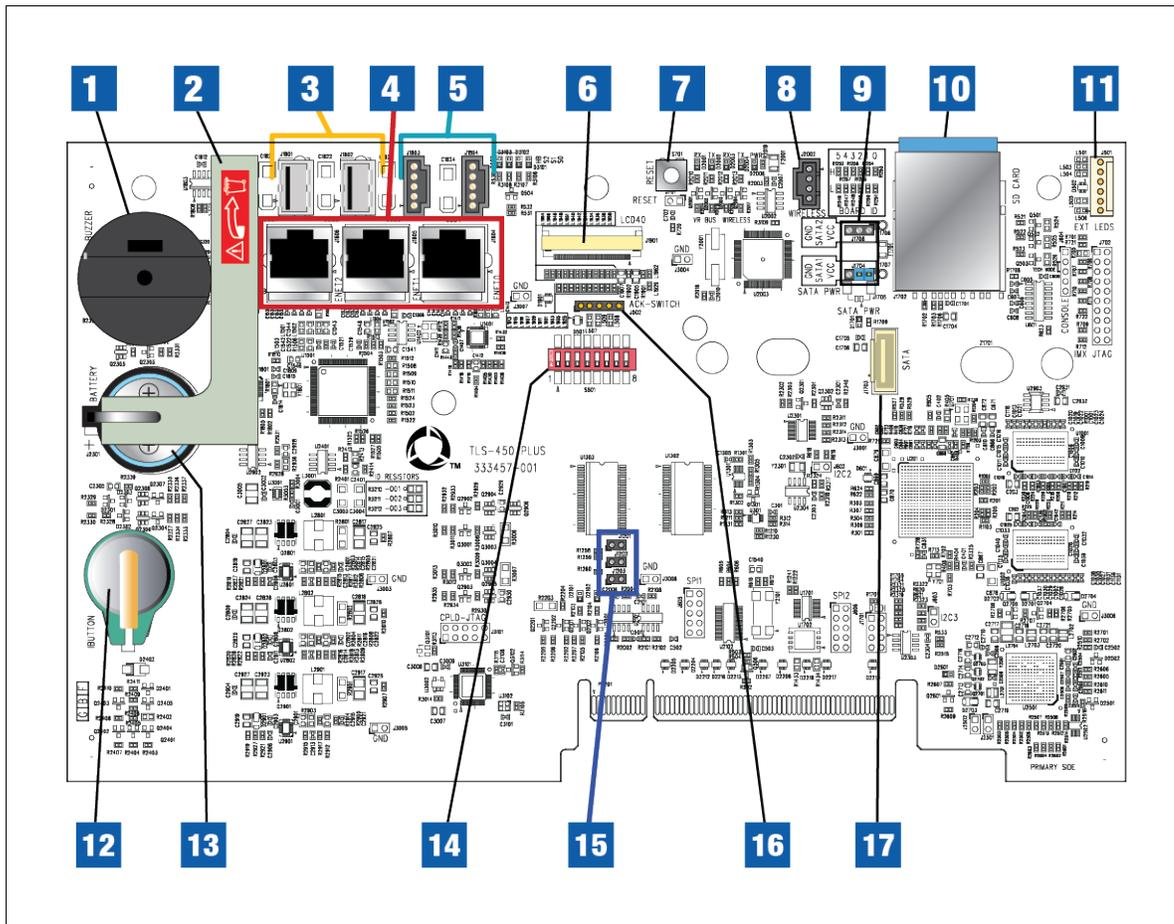
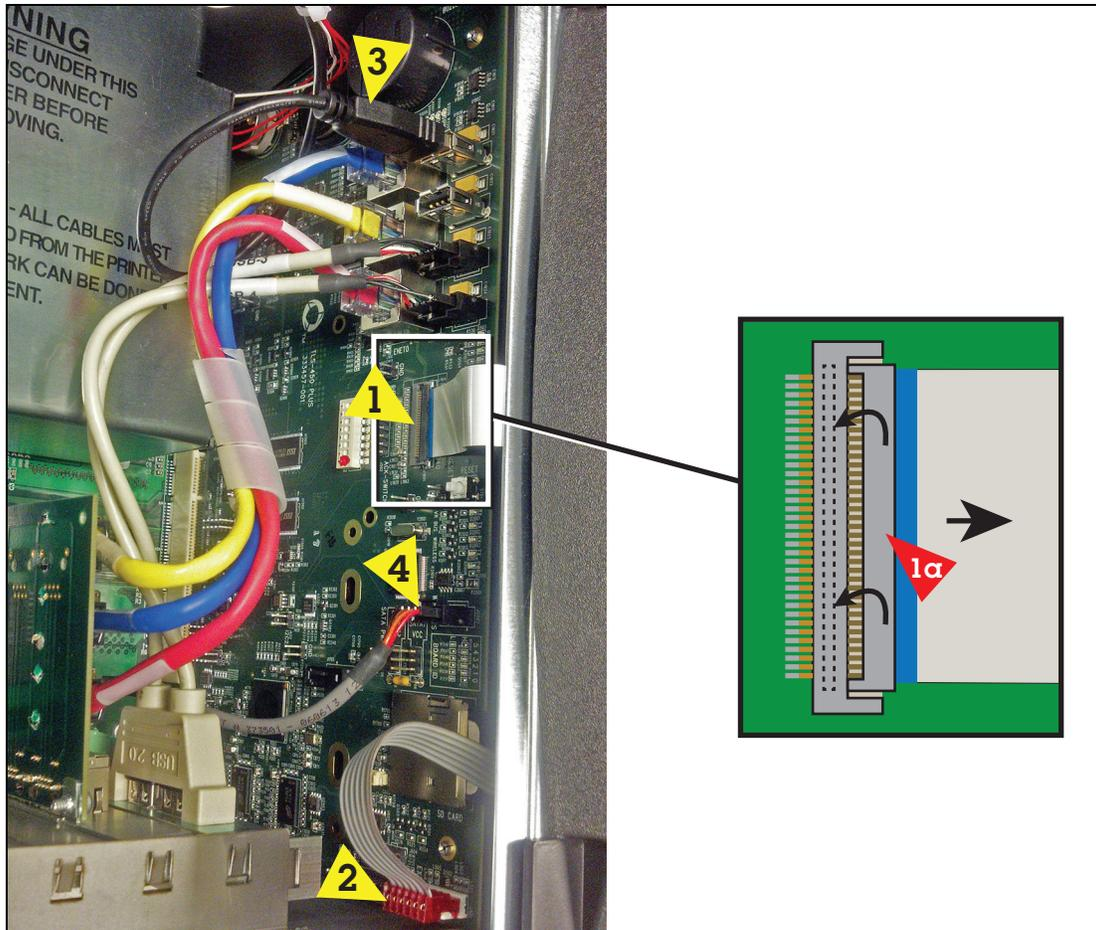

Figure 4. CPU Board
Figure 5. Remove Display Cables from CPU Board
2. For the Ack Switch panel door remove the Ack Switch Panel cable plug from its CPU board connector (item 16 in Figure 4). Remove the LED cable (pointer 2) from CPU board connector (see Figure 5).
For the optional Display door, remove the Display Data cable (pointer 1, Figure 5) from the CPU board connector. Rotate the locking member of the cable's Display connector (1a pointer) up 90° from the connector's fixed base and slide cable end out.
Legend For Figure 4
3. Remove the LED cable (pointer 2) from CPU board connector (see Figure 5).
3. If a printer is installed, remove the printer's USB cable (pointer 3 in Figure 5) from the top USB connector (USB 1).